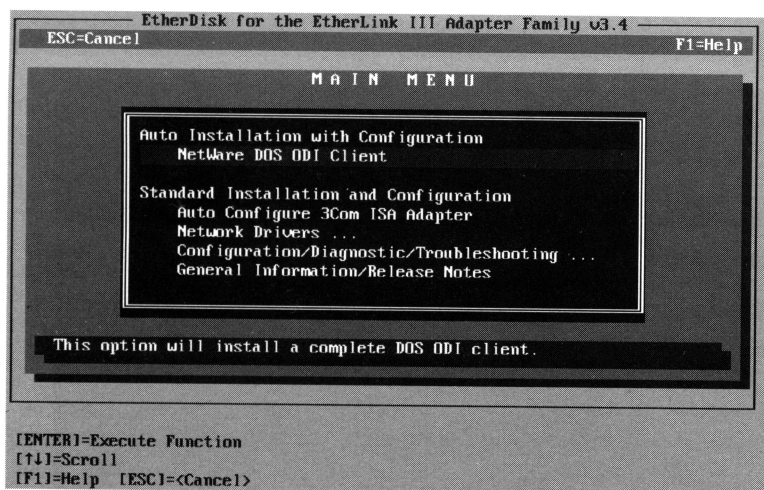

Figure 4-2. Main Menu
7. **When the main menu screen shown in Figure 4-2 appears, select Configuration/Diagnostic/Troubleshooting and press [Enter].**
- 7. When the main menu screen shown in Figure 4-2 appears, select Configuration/Diagnostic/Troubleshooting and press [Enter].**